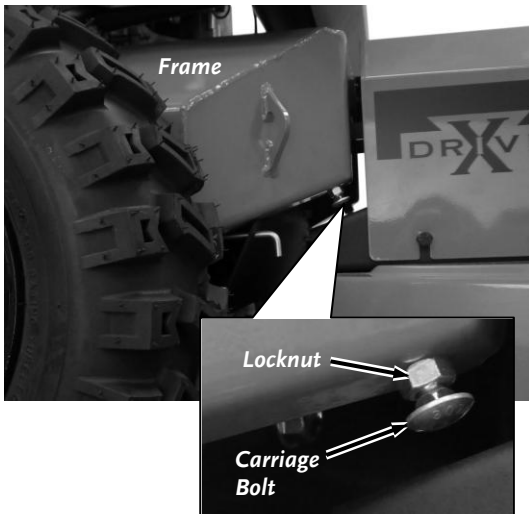

Figure 13
There are two Deck Pivot Carriage Bolts on your DR Field and Brush Mower Frame. The machine should have been shipped with both Bolts in the highest position (screwed in fully) as shown (**Figure 13**). If they are not both in the highest position, and some of the Carriage Bolt threads are shown, perform the following procedures.
1. Loosen both Locknuts using a 1/2" Wrench as you hold the square portion of the Carriage Bolts using a 5/16" Wrench (**Figure 13**). Turn the Locknut down against the Bolt Head.